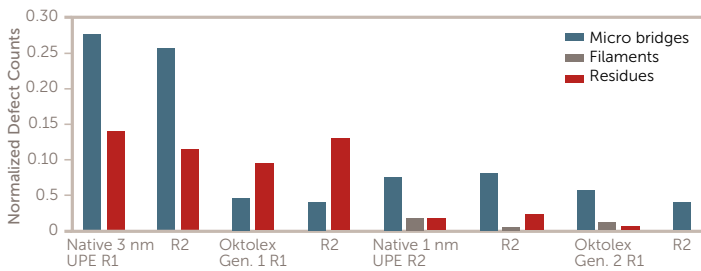

Figure 3. Normalized defect pareto.
A typical defect pareto is shown in Figure 3. Each bar represents the normalized average of three wafers. For an easier comparison, data are normalized on aged resist results. The main defectivity mode related to resist filtration are micro-bridges and residues. Few filaments were also observed. On-top particles are mainly modulated by developer and rinse filtration, as reported elsewhere.1 Defect from UL are not modulated by resist filtration and are not object of this study. As we focus this research on resist filtration, both on-top and UL defects are removed from Figure 3 for clarity.
Recently, imec has manufactured Ge GAA FETs with small gate length (40 nm) using this selective etch for Ge nanowire release.3 In the following paragraph and Fig. 3, the details of manufacturing are summarized: a SiGe/Ge/SiGe multistack is grown lattice matched to a 300 mm (100) Si substrate. The SiGe layer consists of 55%–70% atomic Ge. Subsequently fins are etched with 45 nm pitch and isolated using shallow trench isolation (STI). To release the Ge nanowires, the sacrificial SiGe is selectively removed in the dummy gate cavity through wet processing. SiO2/HfO2 dielectrics and TiAl based workfunction metal is formed around the channel, with diameter of 9 nm.
Figure 3. Process flow and Coventor® images (a) – (d) illustrating fabrication of strained Ge GAA NW devices starting from a 300 mm Siltronic® Si0.3Ge0.7 strain relaxed buffer (SRB) substrate using wet sacrificial SiGe removal to release the strained Ge wires inside the dummy gatecavity.3